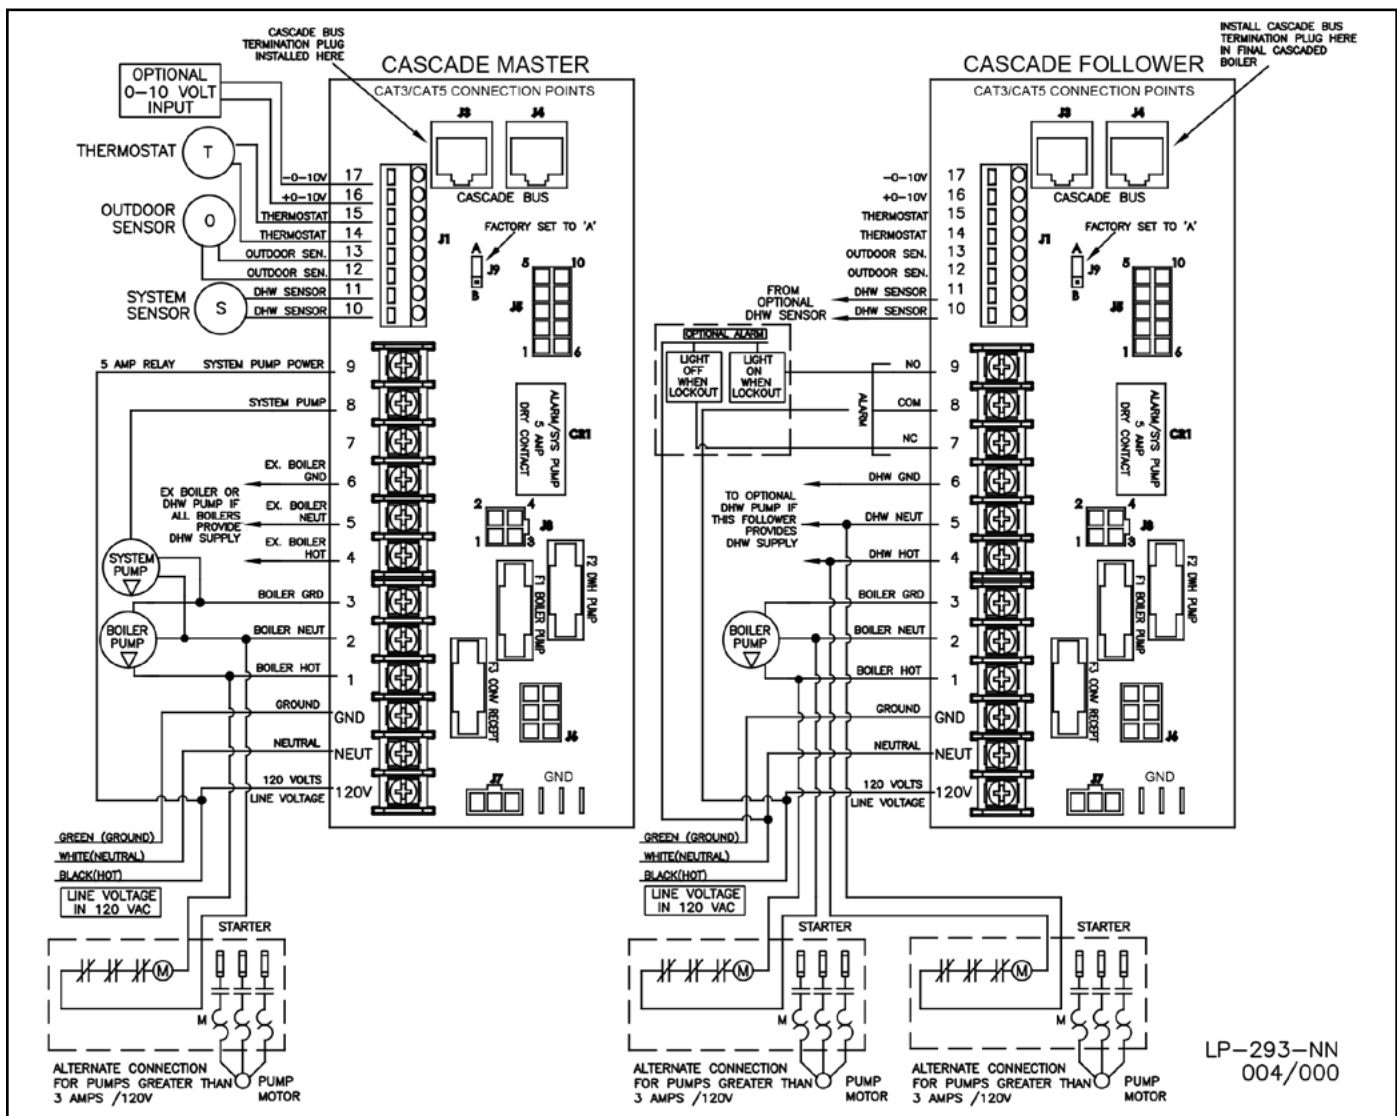

Figure 30 - Cascade Master and Follower Wiring
1. A Cascade Bus Termination Plug has been installed on the customer connection board of this boiler. The purpose of this plug is to stabilize communication between multiple boilers and reduce electrical “noise”. See Figures 30 and 31 for Cascade Bus Termination Plug installation detail.